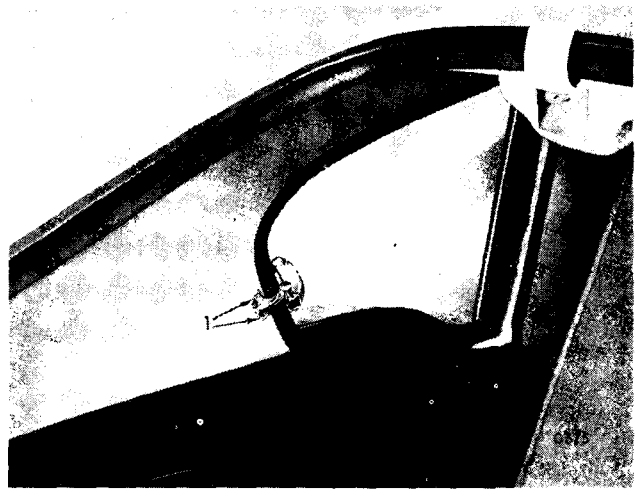

Fig. 36. Rear quarter-vent catch
Remove two screws (1) (Fig. 36) in the rear quarter-vent catch, open out the vent and pull off the sealing rubber.